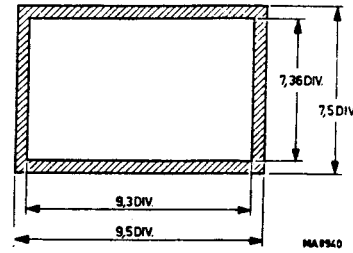

Fig. 3.17. Geometry check
- Check that the edges of the display lie within the hatched area shown in Fig. 3.17; if necessary, readjust the GEOMETRY potentiometer R568 on the H.T. converter board.